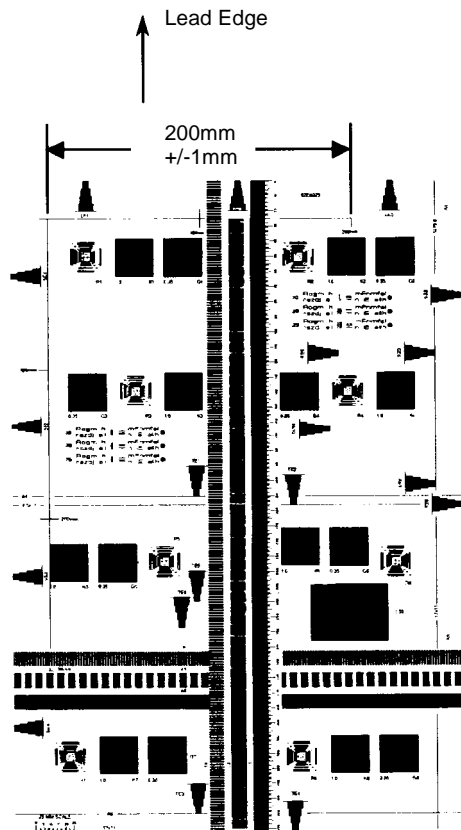

Figure 1 Checking Horizontal Magnification
3. **Check horizontal magnification** (Figure 1):